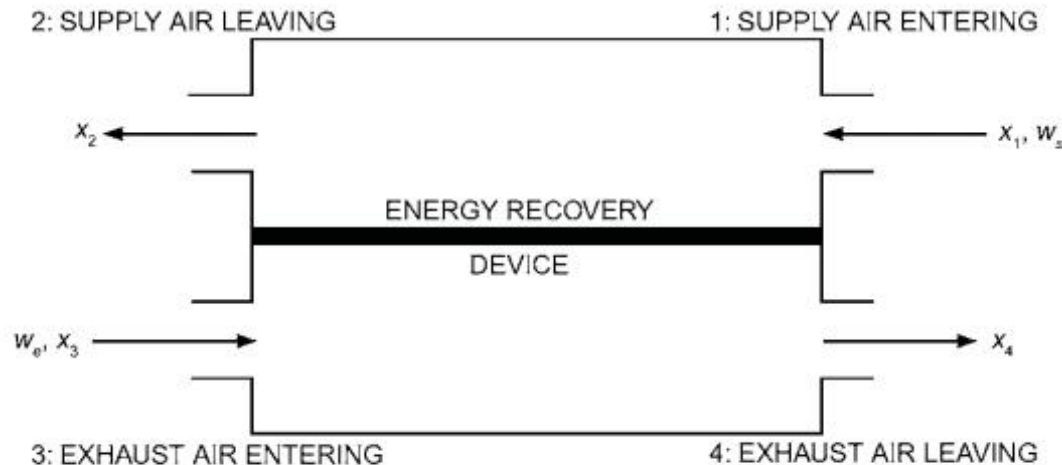

Fig. 1 Airstream Numbering Convention
From Figure 1, the sensible effectiveness ε_s of a heat recovery ventilator is given as
- t_1 = dry-bulb temperature at location 1 in Figure 1, °C